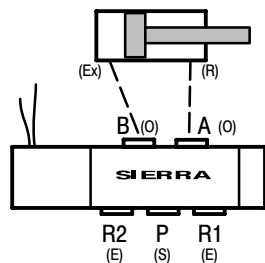

Figure 1 / Figure 1 / Figura 1
2. Outlet ports A and B must be connected to a device (double acting cylinder, gauge etc.,). R2 port is exhaust when A port is pressurized. R1 port is exhaust when B port is pressurized (figure 1).